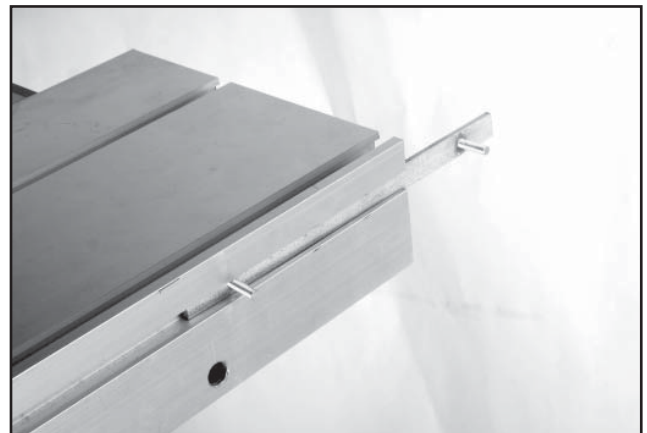

Figure 7
2. Slide the T-nuts bar into the side channel of the sliding table. Figure 7.